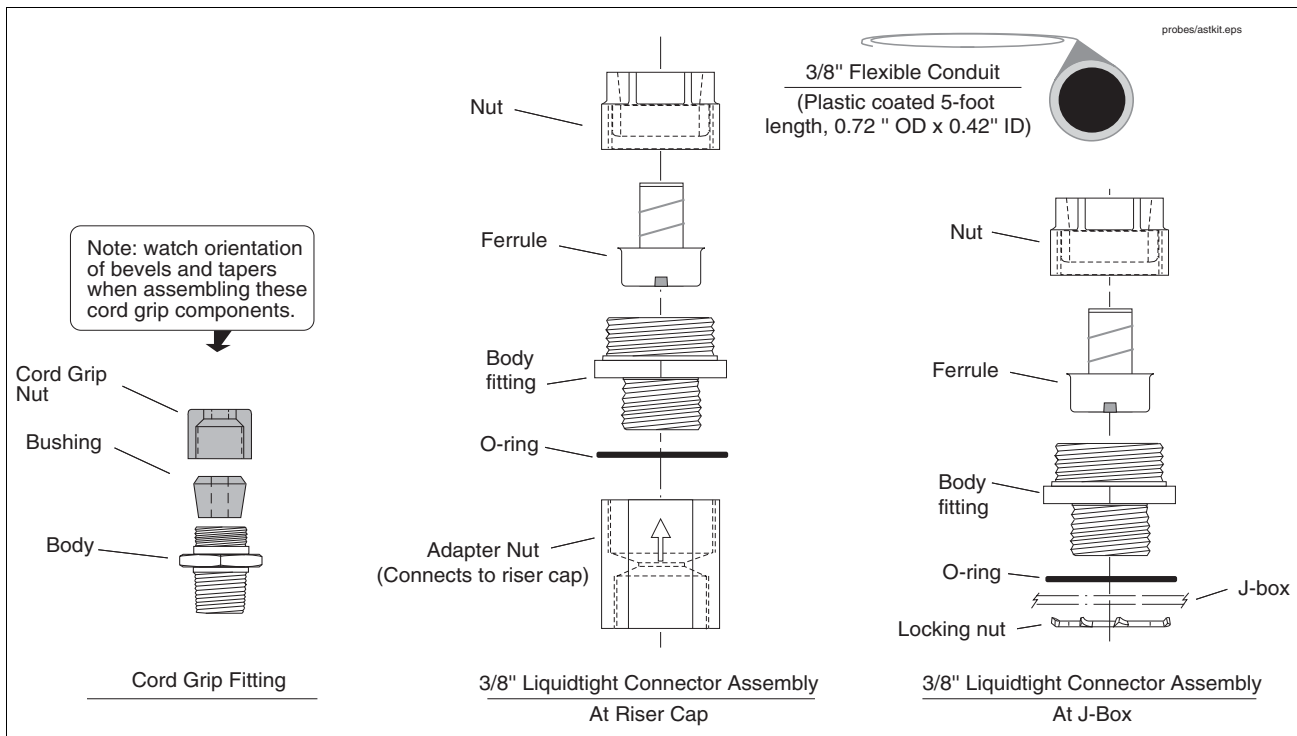
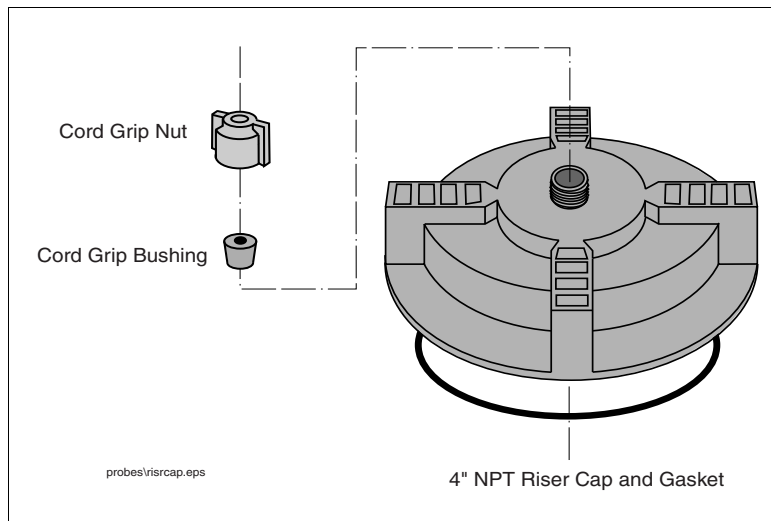
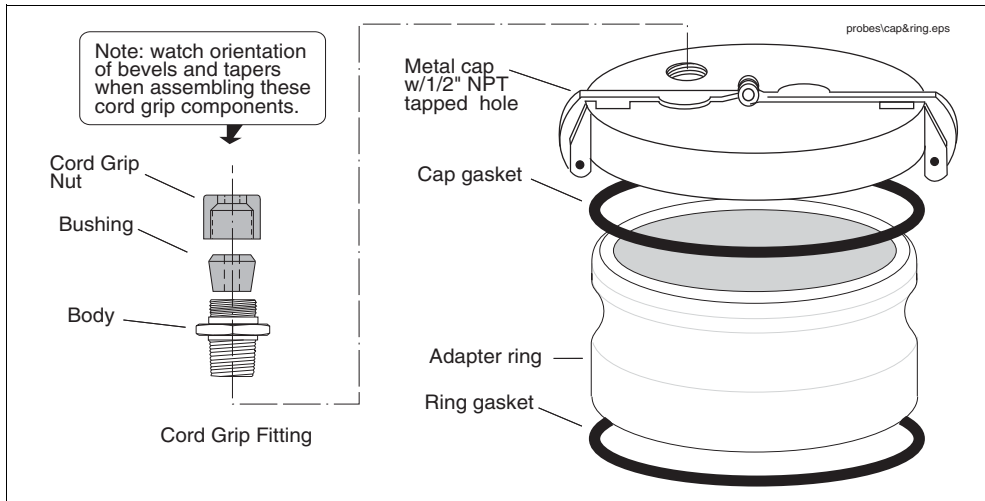

Figure 3. Mag Probe AST Installation Kit
Figure 6. Cap And Cord Grip Kit
Figure 7. Metal Cap And Ring Kit
This kit is recommended when installing Mag Probes into an above ground storage tank (AST). This kit contains a length of flexible conduit, connectors, etc., for easier probe access. The kit contents are listed in Table 1 and shown in Figure 3.
This Riser Cap kit (Table 4) contains a non-metallic cap which screws onto the 4" NPT riser (Figure 6). The cap comes drilled and tapped with a cord grip.
This riser cap kit contains an adapter ring which screws onto the 4"NPT riser and a quick-release metal cap which clamps onto the ring (Table 5). The cap comes drilled and tapped with a cord grip (Figure 7).
1. If you are using the one piece cap (see Figure 6 on page 9), push the end of the probe cable through the cord grip bushing and nut on the cap, leaving a minimal amount of slack between the probe and cap. Screw the cap onto the riser by hand until the gasket first contacts the pipe. Then lightly tap the cap with a hammer to tighten it an additional 3/4 turn. Go to Step 3.
2. If you are installing the metal cap and adapter ring (see Figure 7 on page 10), screw the ring onto the 4" riser until the gasket contacts the pipe, then use a pipe wrench to tighten it an additional 3/4 turn. Push the cable through the metal cap and cord grip, then clamp the cap onto the ring.
1. If you are using the one piece cap (see Figure 6 on page 9), push the end of the probe cable through the cap and cord grip bushing, leaving a minimal amount of slack between the probe and cap. Discard the cord grip nut and attach the adapter Nut from the AST kit to the cap (see Figure 3 on page 6). Tighten the adapter Nut until the cable is held firmly. Go to Step 3.
2. If you are installing the metal cap and ring (see Figure 7 on page 10), screw the ring onto the 4" riser until the gasket contacts the pipe, then use a pipe wrench to tighten it an additional 3/4 turn. Using UL-classified pipe sealant (suitable for the fuels involved), screw the cord grip fitting into the tapped hole and tighten. Place the cord grip bushing in the fitting. Discard the cord grip nut and loosely screw the adapter Nut from the AST kit onto the cord grip fitting (see Figure 3 on page 6). Push the cable through the metal cap, bushing, and adapter nut, then clamp the cap onto the ring. Make sure there is a minimal amount of slack between the probe and cap, then tighten the adapter Nut until the cable is held firmly.
3. Next assemble the liquidtight connectors on both ends of the flexible conduit as shown in Figure 3. Push the cable through the flexible conduit assembly and into the J-box. Connect the flexible conduit assembly to the adapter Nut on one end and the J-box on the other.